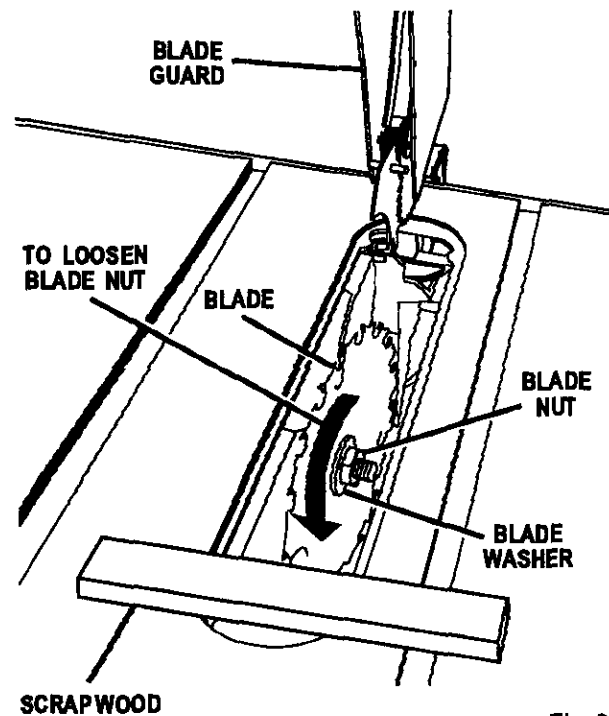

Fig. 35
See Figures 35–37.
- Raise the blade to its highest position by turning the height handwheel clockwise. Angle the blade straight up by loosening the bevel lock handle and turning the bevel handwheel. Wedge a piece of scrap wood against the front of the blade. See Figure 35.